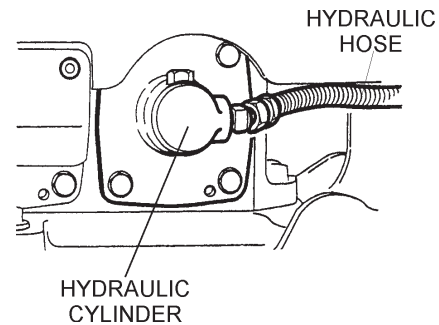

Figure 27. Hydraulic Oil Cylinder/Hose
1. Disconnect the hydraulic hose (Figure 27) connected to the hydraulic oil cylinder.